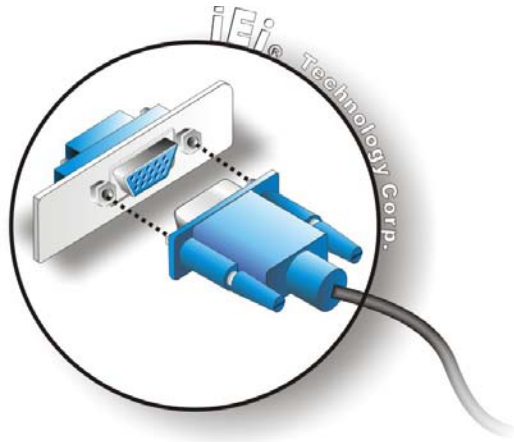

Figure 2-11: VGA Connector
Step 3: **Insert the VGA connector** Once the connectors are properly aligned with the insert the male connector from the VGA screen into the female connector on the AFL-W15A/17D-GM45. See Figure 2-11.